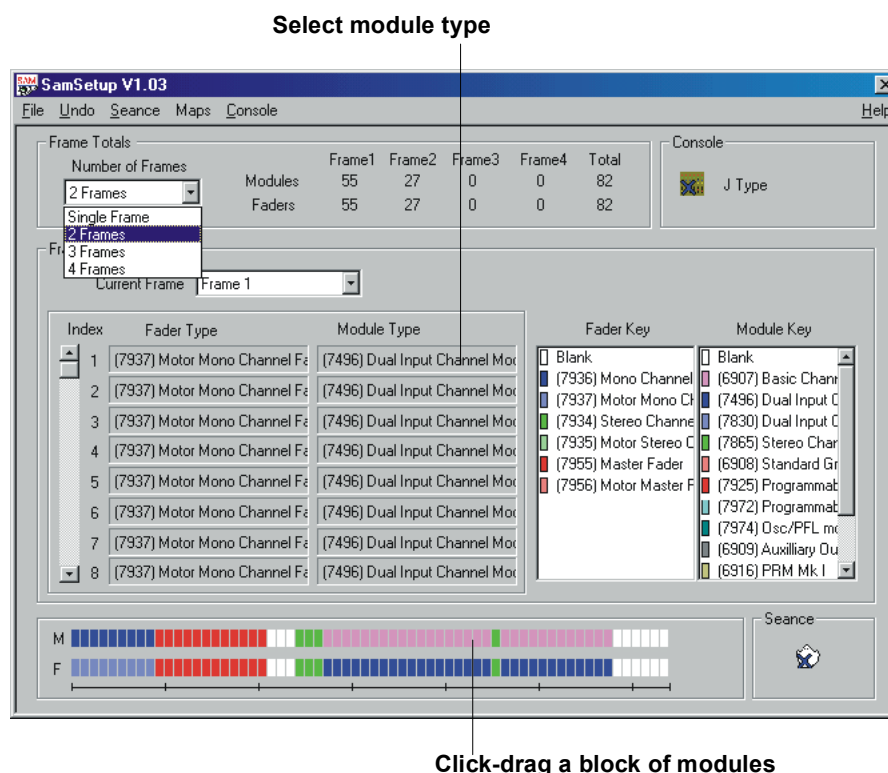

FIG 2-4. Select modules by clicking on them and then right-click to show a menu or drag a box around the modules and then right-click.
In the SAM Setup window, the individual Frame configuration has two columns, Fader type and Module type (see fig 2-4). The columns may show up to 64 positions. The number in the index column indicates the frame position of each module or fader. Use the scroll bar to show more positions.
- Click under the coloured block in the row at the bottom of the window to select that module, and then right-click to show a menu, see fig 2-4.